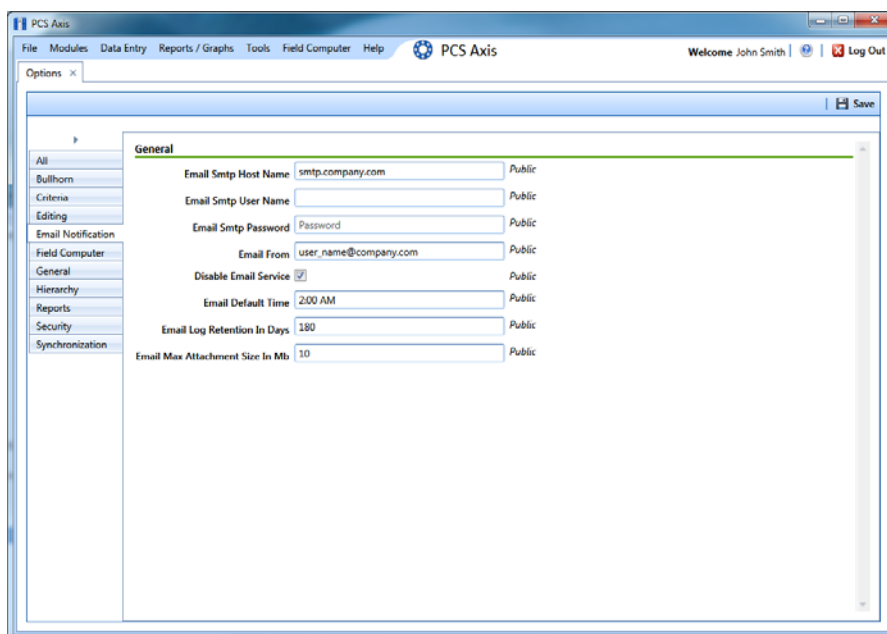

Figure 11-17. Options / Email Notification
- b Click the **Email Notifications** tab to view property settings for *Email Notification* (Figure 11-17).